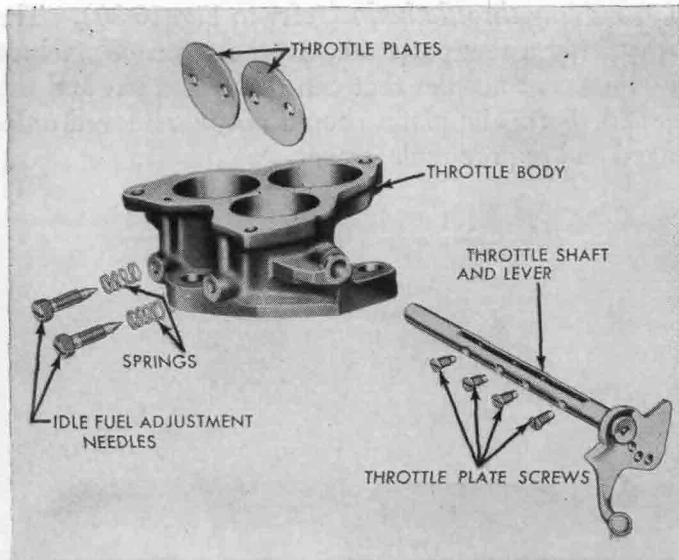

FIG. 10-30. Throttle body disassembled. (Ford Motor Company)
4. *Disassembling throttle body* (refer to Fig. 10-30). The throttle body has only a few parts that can be taken off, including the idle fuel adjustment needles that can be backed out and the throttle plates and shaft. The plates should not be removed unless they are damaged and require replacement.